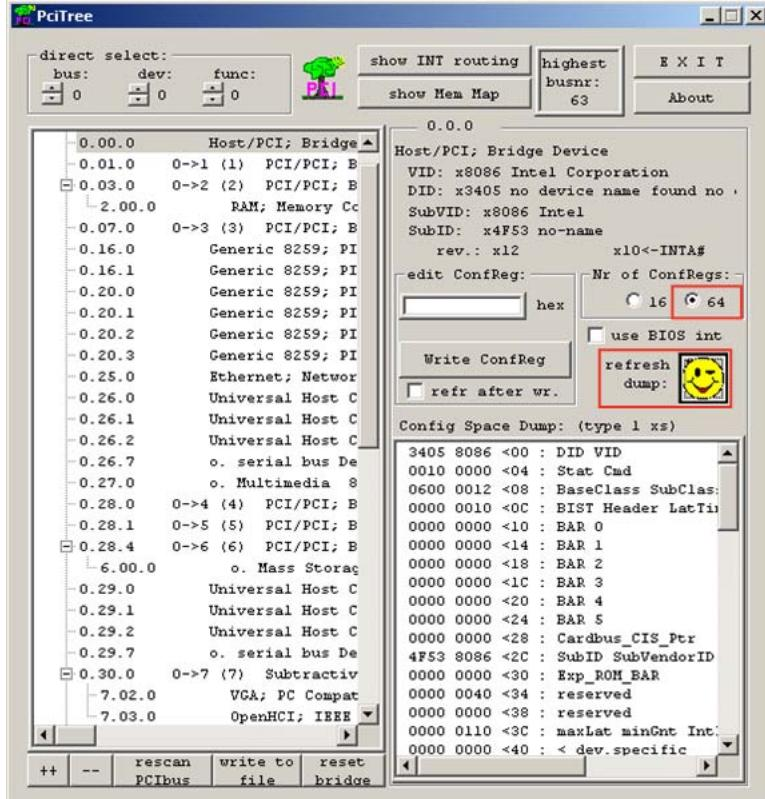

Figure 1-31: Set Configuration Registers
12. Set the number of configuration registers to 64 (as shown in Figure 1-31) and click on the **refresh dump:** button.